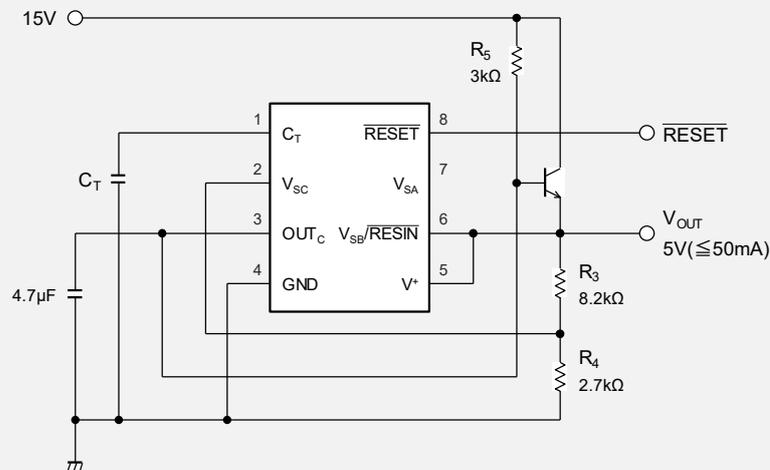

Fig. 12-1 Reference Voltage output and Voltage drop monitoring (e.g. 5V output, 5V monitoring)
- The reference voltage V_{OUT} is calculated as following formula. In case of resistor value In Fig.12-1, the reference voltage V_{OUT} is about 5.0V
5V Reference voltage V_{OUT} is generated by $V_{SC}(COMP_C)$ and feedback resistors R_2 , R_3 , and its 5V is monitored by $V_{SA}(COMP_A)$. Unlike Fig.12-1, 5V output cannot supply large current.